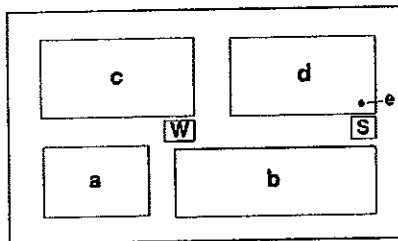

Figure 4-3. Repeater Display
9. **Repeater Display** – contains the following displays (see Figure 4-3):